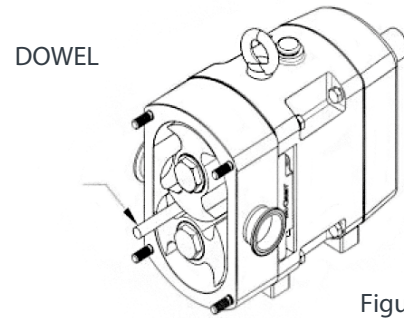

Figure 6
- d) To remove the rotors, first loosen the first rotor, place the dowel between the rotors to prevent rotation as shown in Figure 6.